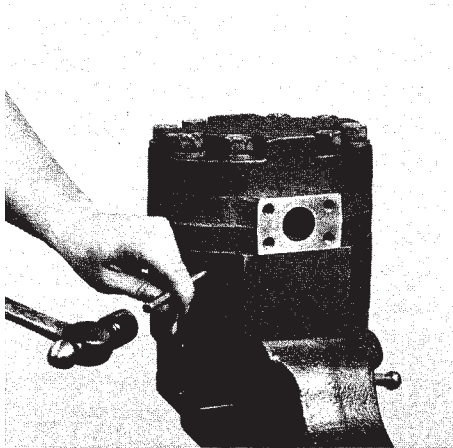

FIGURE 1
1. Place pump into a vise with drive shaft down. Clamp onto front cover. Using a dark marker or punch, mark all three sections on one side for reference during reassembly. (Figure 1)